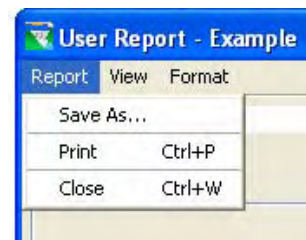

Figure 14.48 User Report - Report Menu
- **Report:** Options include **Save As...**, **Print**, and **Close** (as shown in Figure 14.48).